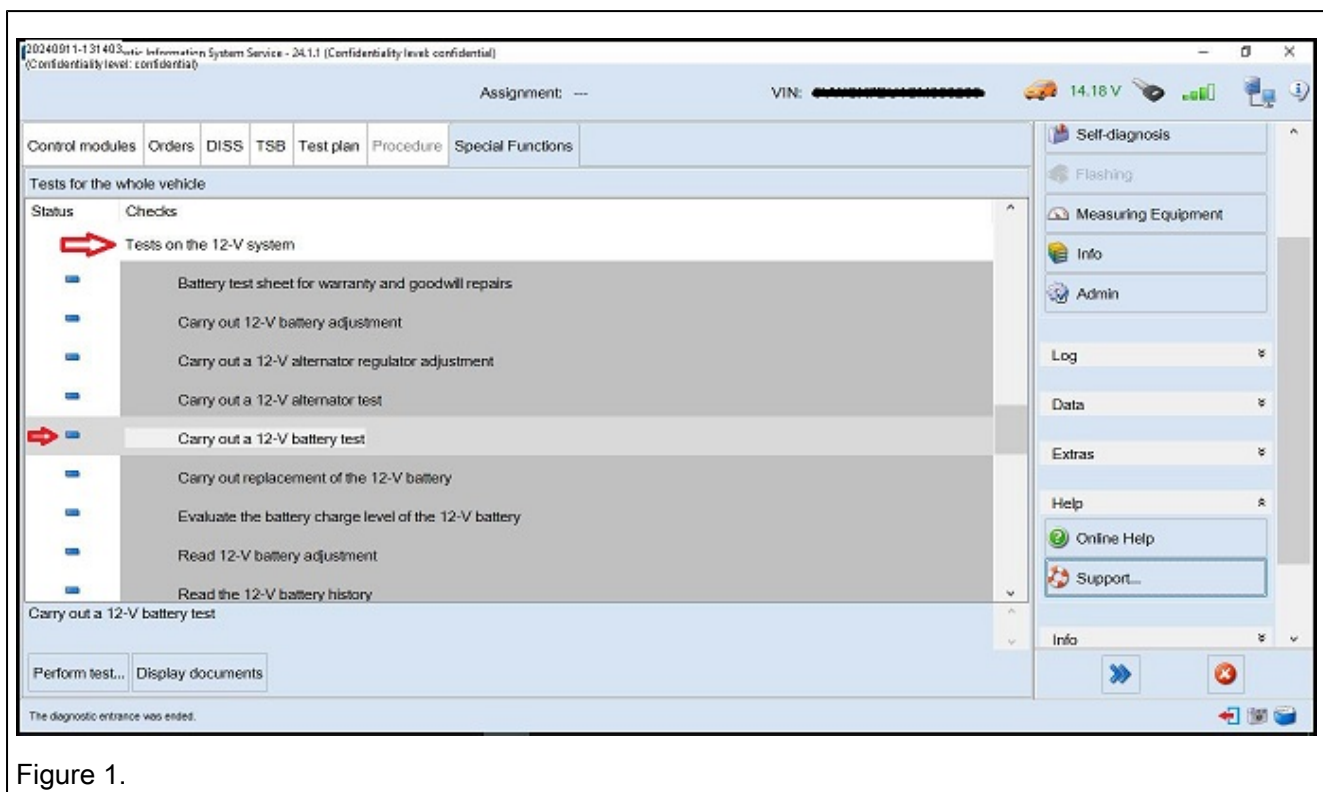

Figure 1.
1. Navigate to special functions, go to Tests on the 12-V system and then navigate to Carry out a 12-V battery test (Figure 1).